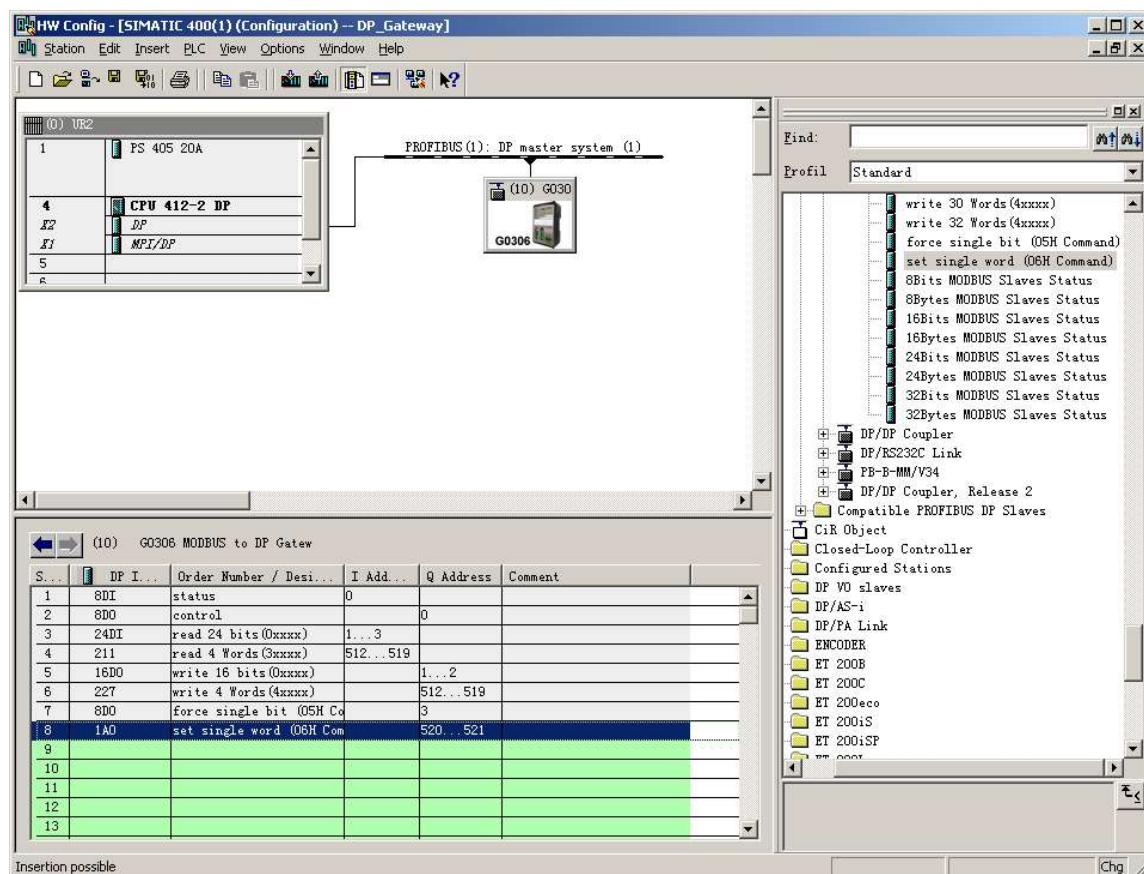

Figure 31 Add“set single word (06H Command)”module
- a) Add “set single word (06H Command)” module, as shown in Figure 31: